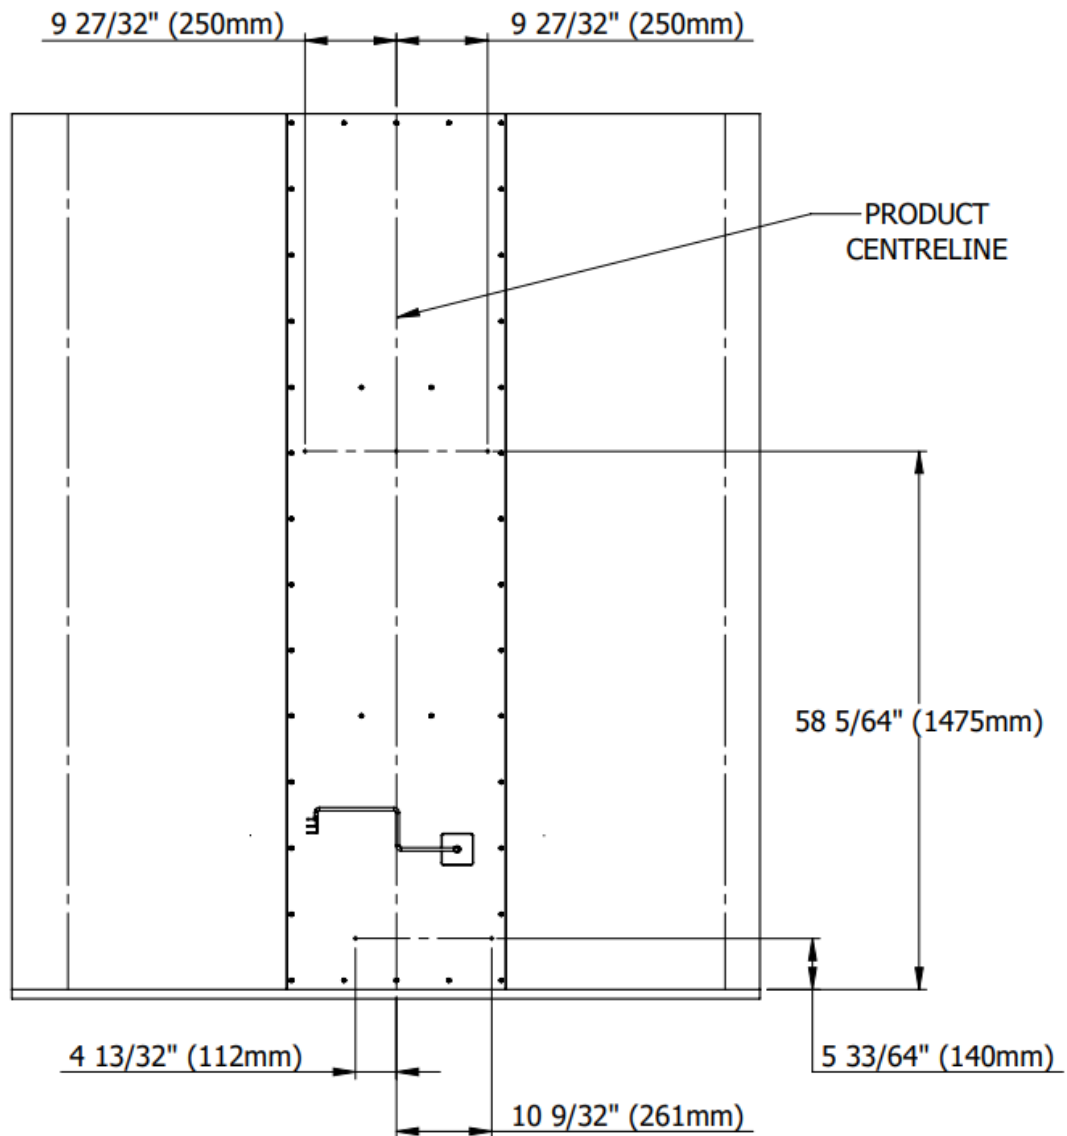

Fig 11.3
- Ensure the horizontal cross members are not located at the same height as the changing station's fittings as shown in Fig 11.3 in order to avoid a future installation problem.
- The finished pre-installation should appear like Fig 11.3.